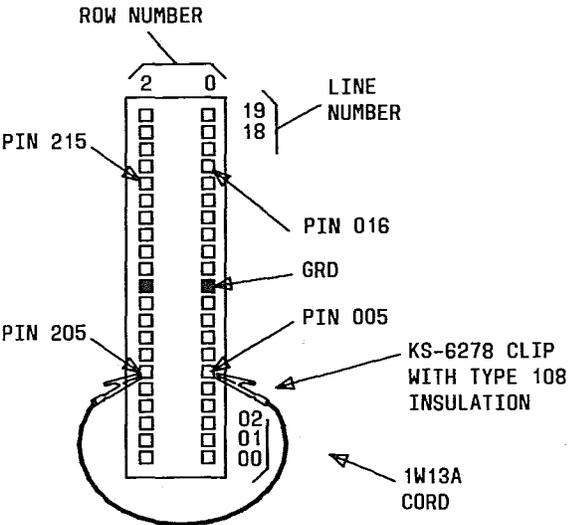

Fig. 24 — Rear View of Connector on MUT
5. Place shorting strap between terminals 016 and 215 for circuit **0**, 005 and 205 for circuit **1** (Fig. 24)